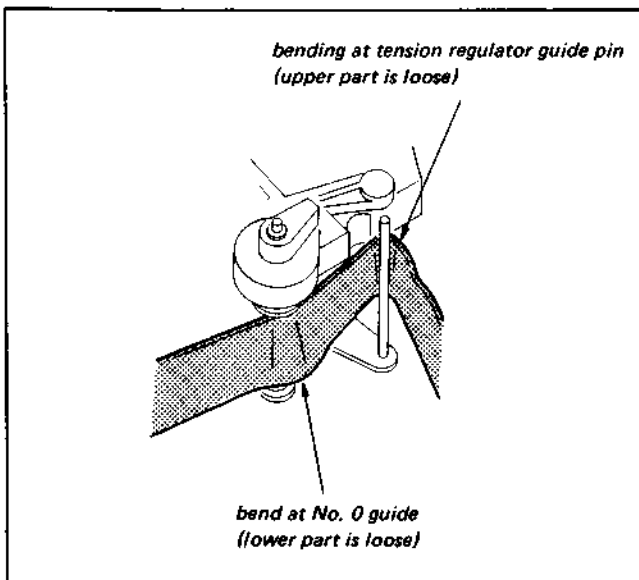

Fig. 3-10 Replacement and adjustment of tension regulator arm plate (2)
- 4) Confirm that there is not a large bending of the tape at the tension regulator guide pin section and the No. 0 guide section shown in Fig. 3-10 after the completion of the adjustment. If bending appears, repeat step 3.